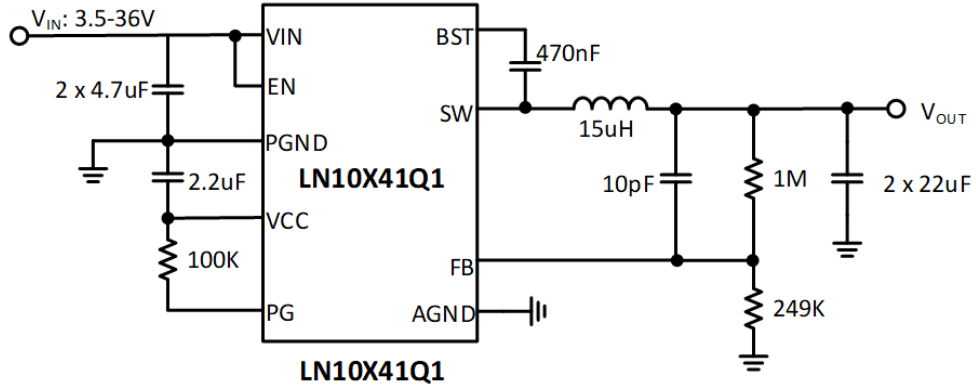

Figure 23. LN10X41Q1, 400kHz, 5V, 0.8A 典型应用电路图
- (2) This Function is available on LN11X41Q1 Only.
- (3) The current limits are measured in close-loop regulation with typical application in Figure 23. Due to inherent delays in the current limit comparators and drivers, the current limits measured in other applications may be different.
- (4) Guaranteed by design.
- (5) Measured from $EN_{VOUT-ON}$ to PG establish.